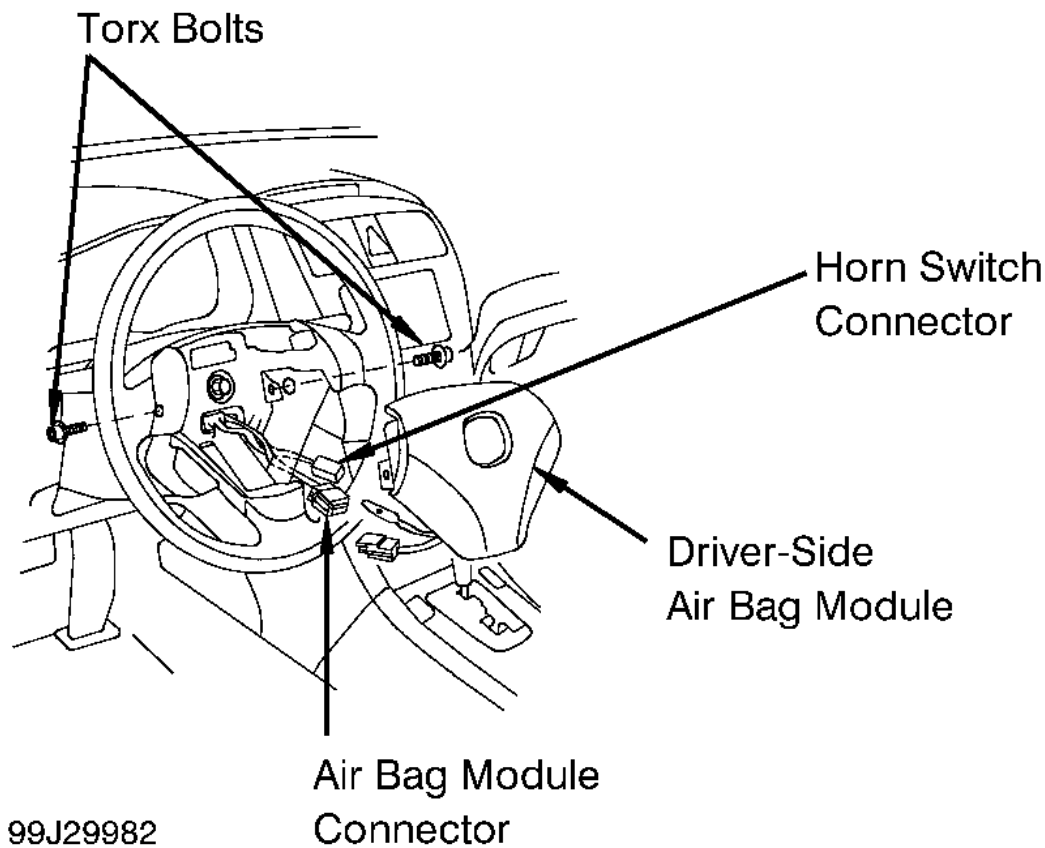

Fig. 15: Identifying Driver-side Air Bag Module
1. Before proceeding, see **AIR BAG SAFETY PRECAUTIONS**. Disable air bag system. See **DISABLING SYSTEM** under DISABLING & ACTIVATING AIR BAG SYSTEM. Remove access panel from bottom of steering wheel. Disconnect air bag connector from cable reel connector. Remove Torx bolt covers. Using Torx T30 bit, remove and discard Torx bolts securing air bag module to steering wheel. See **Fig. 15**. Remove air bag module.